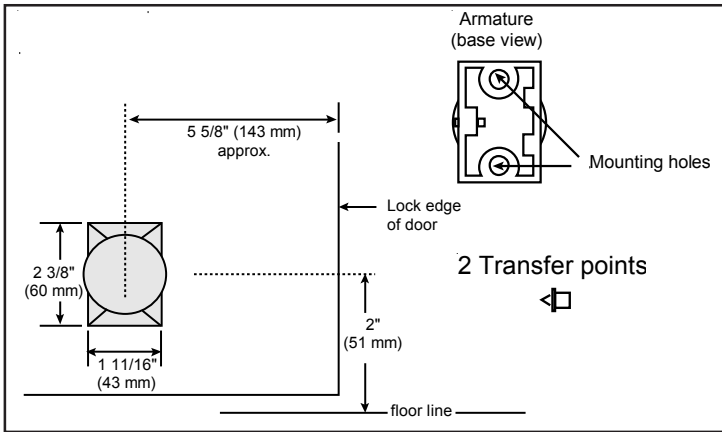

Figure 5. Armature Mounting
NOTE: Armature assembly must be mounted vertically (Figure 5) to obtain correct alignment with the electromagnet.
2. Place the transfer marking points in the armature mounting holes (Figure 5).